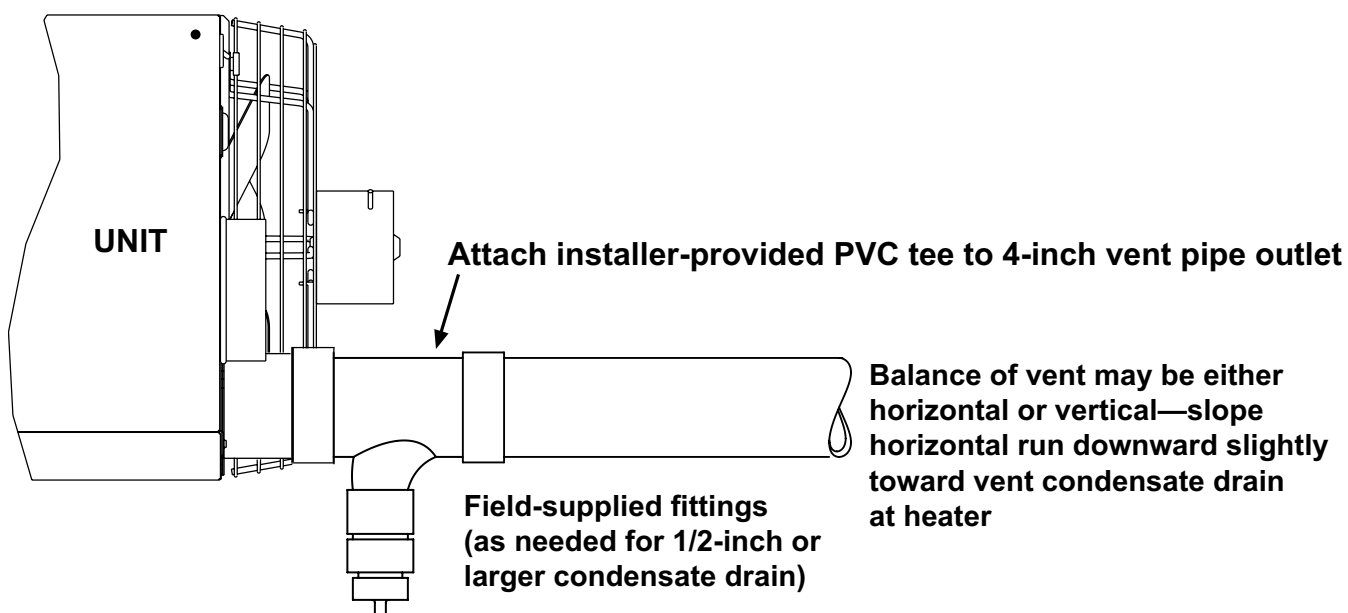

Figure 22. Installing Condensate Drain in Vertical or Horizontal Vent (US or Canadian Installation)
- Instructions for installing a condensate drain connection with a vertical or horizontal vent (US OR CANADIAN INSTALLATIONS) using field-supplied vent and drain components are shown in Figure 22.